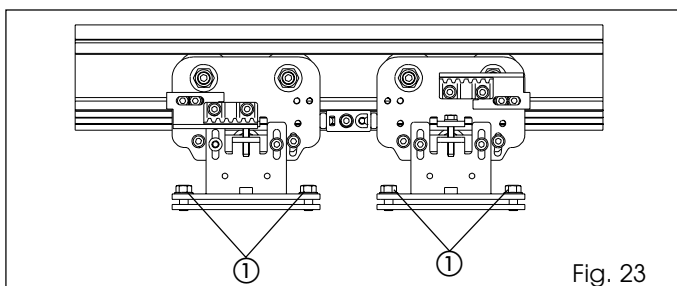

Fig. 23
The 940 SMT series doors are supplied with the carriages reaching their travel stop limit on the closing edge (fig. 23). If the door centre has to be adjusted, proceed as follows:
- Loosen the fixing screws (fig. 23 ref. ①) of the carriage in question. Take the carriage toward the limit stop until the two parts are in contact.